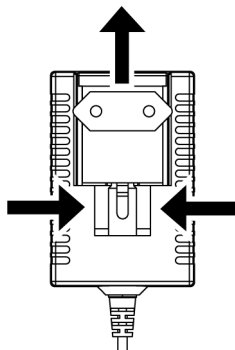

Fig. 7 PS4: Changing the AC line plug adapter
3. Slide a different AC line plug adapter into the slot (see Fig. 7).